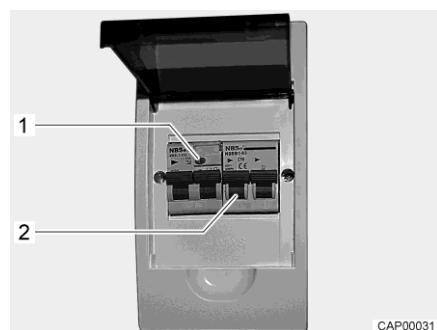

Fig. 52 230 V fuse box with safety cut-out and FI-switch
A fault current protection switch (FI-switch) in the fuse box protects the complete vehicle from fault current (0.03 A). A downstream safety cut-out (10 A) (Fig. 52,2) secures the 230 V power supply.
- When the vehicle is connected to the 230 V power supply, press the test button (Fig. 52,1). The fault current protection switch must trip.